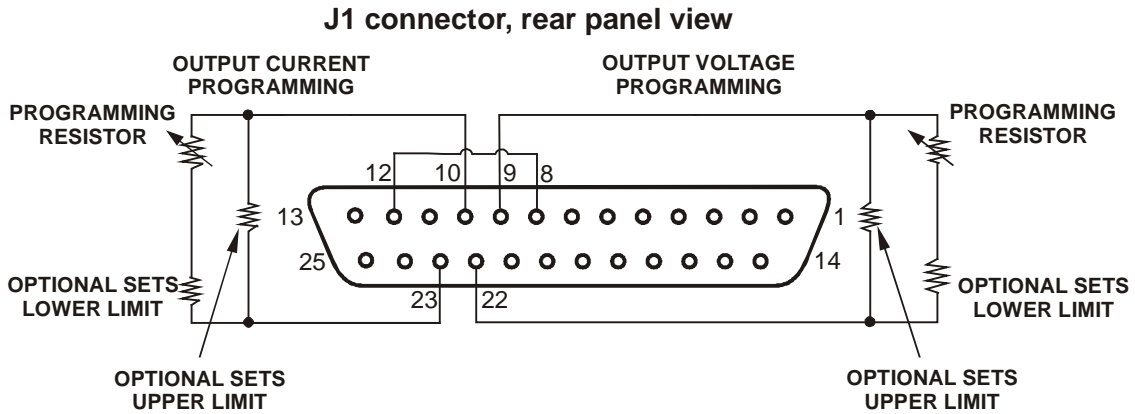

Fig 7-2: Remote Resistive programming
- f) Connect the programming resistors to the mating plug of J1 as shown in Fig.7-2.